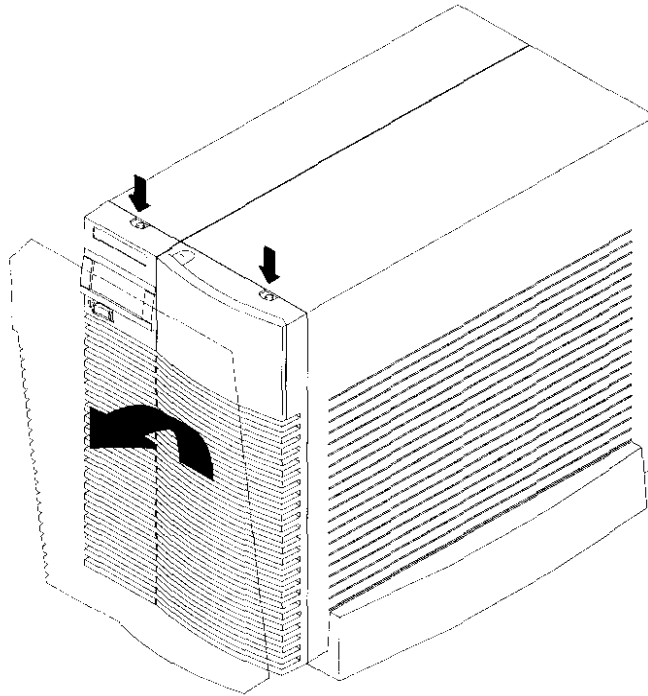

Figure 1
- a. Remove the workstation front cover by pressing the two release buttons on the top front of the workstation and pulling out and down (figure 1).